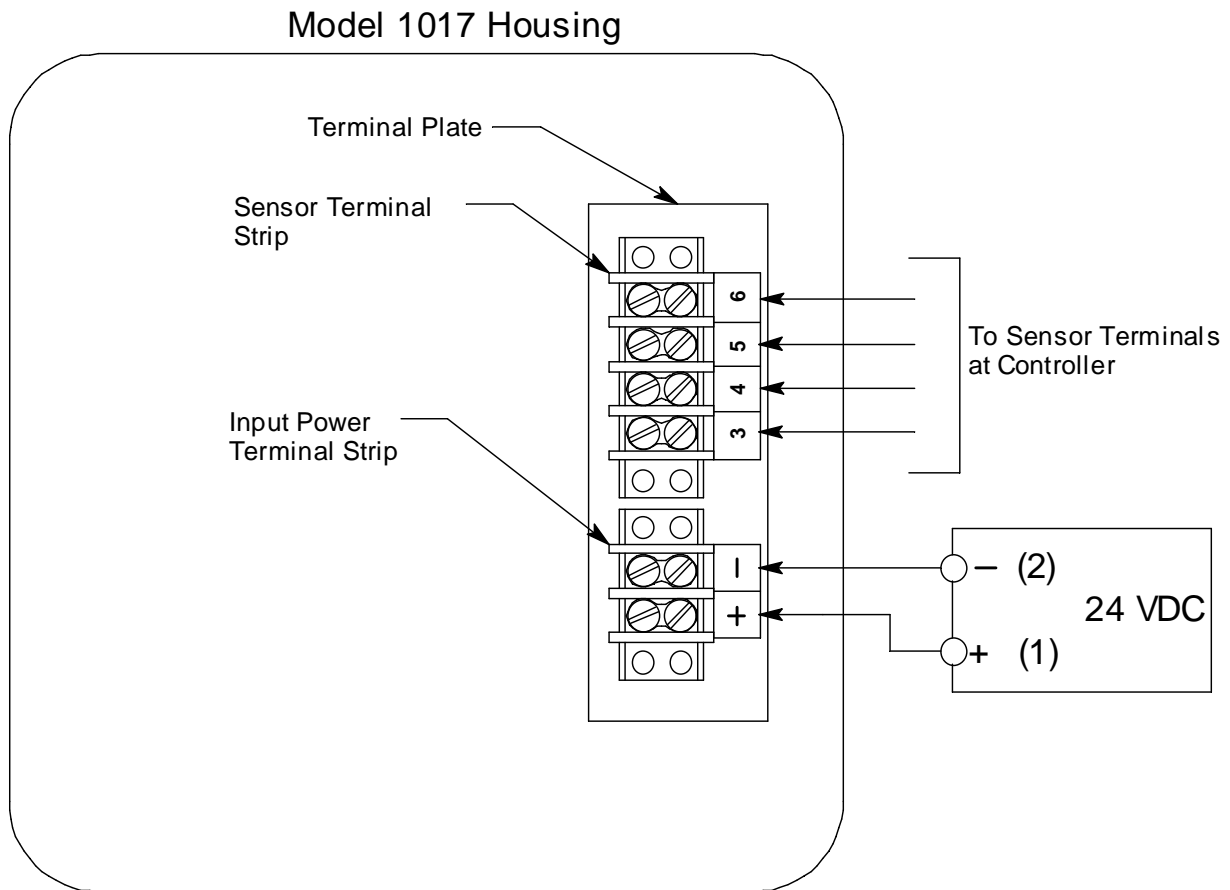

Figure 4: Wiring the Model 1017-05
4. Connect two wires to the input power terminal strips as shown in Figure 4.